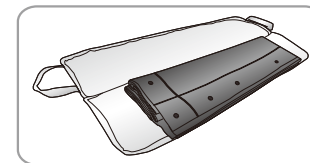

Figure 27
- Put the folded fabric into the fabric bag and fasten the slide ( Figure 27 - 28 ).